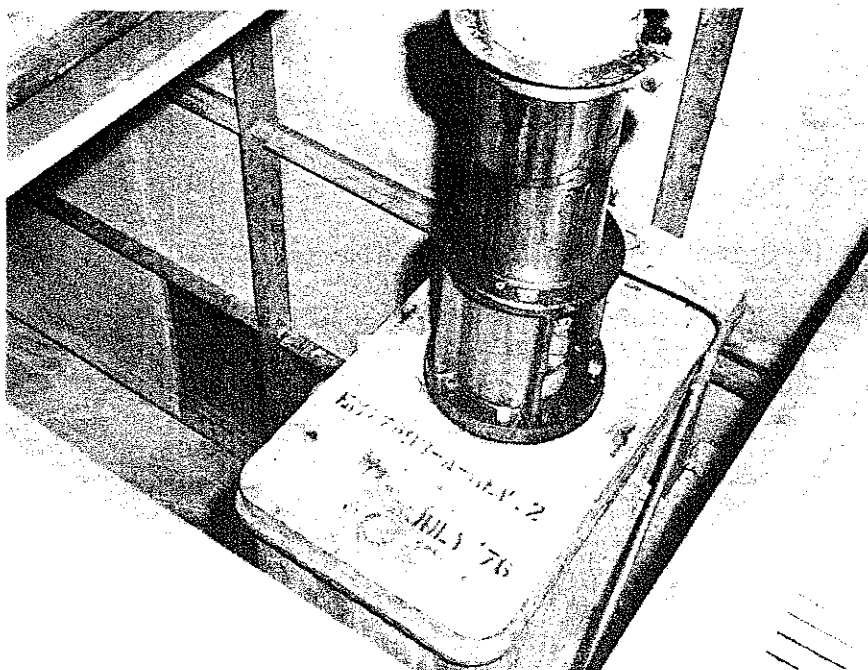

FIG. 8 PURGE LINE
- e. Cut the 1/2-inch monel purge line with a pipe cutter (Fig. 8).